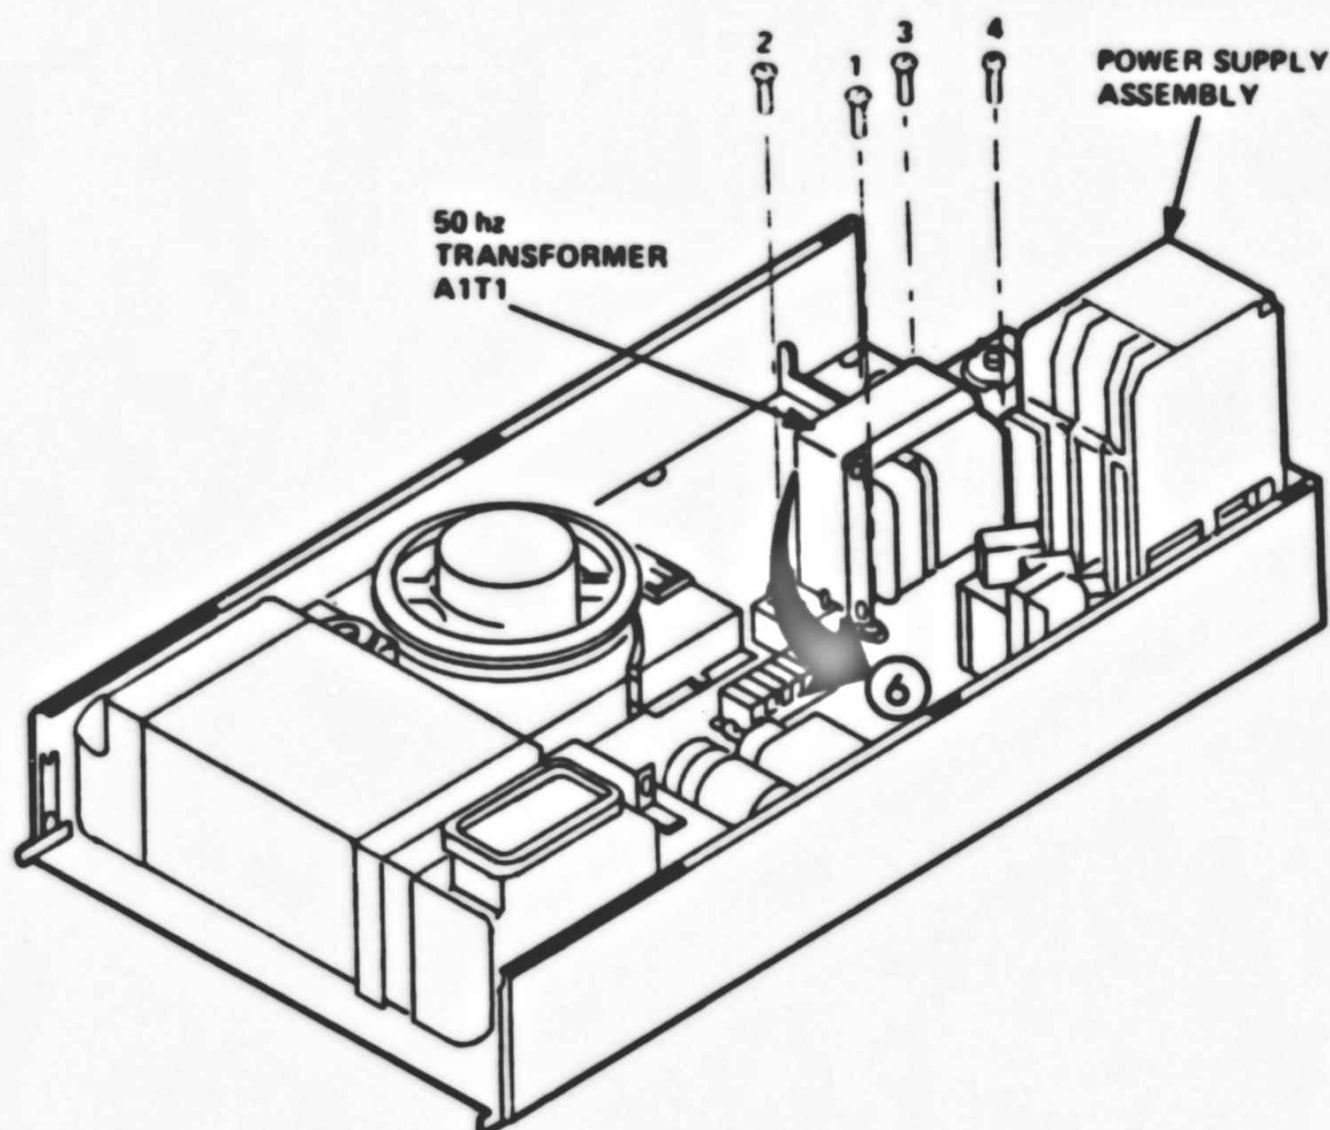

Fig. 4
- 8) Loosen the transformer mounting screws (#1, #2, and #3 in figure 4). Screw #4 is unaccessable at this time.
- 9) Rotate the transformer (using screw #4 as the pivot point) in the direction noted by arrow 6 in figure 4 until the required clearance is obtained. Since screw #4 is still tightened, the transformer may have to be lightly "tapped" to perform this step. If the transformer will not move, the 4th screw will have to be loosened. This screw is accessible by first removing the power supply assembly (figure 4).
- 10) After readjusting the transformer, retighten the transformer mounting screws (1,2,3,4 in figure 4).